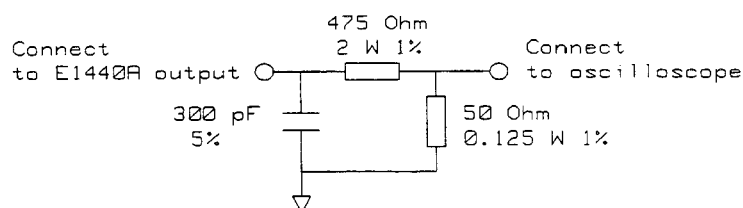

Figure C-11. 500 Ω 300 pF load/Voltage divider
12. Connect the HP E1440A output to the analog oscilloscope via a 500Ω , 300pF load/voltage divider, as shown in Figure C-11.